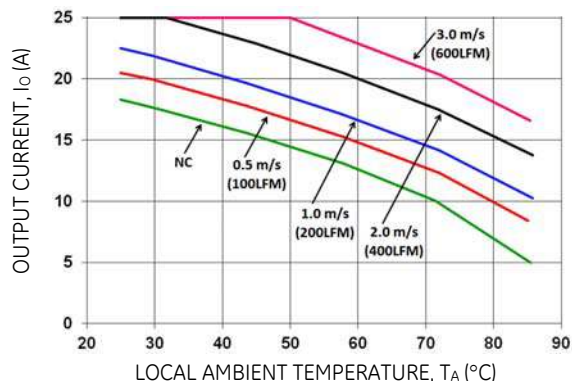

Figure 20. Output Current Derating for the Open Frame EBVW025A0B in the Transverse Orientation; Airflow Direction from Vin(-) to Vin(+); Vin = 48V.
Increased airflow over the module enhances the heat transfer via convection. The thermal derating of figures 20 through 22 show the maximum output current that can be delivered by each module in the indicated orientation without exceeding the maximum TH_x temperature versus local ambient temperature (T_A) for air flows of, Natural Convection, 1 m/s (200 ft./min), 2 m/s (400 ft./min).
The use of Figures 20 is shown in the following example:
Determine required airflow (V) (Use Figure 20):